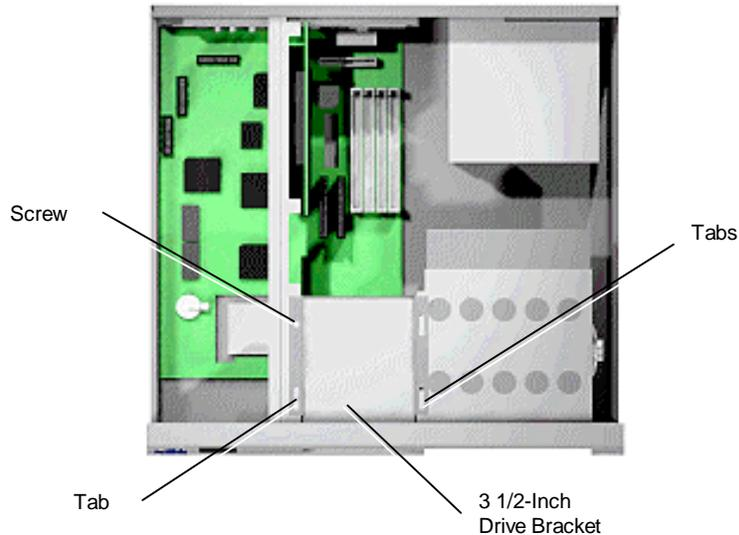

Figure 3-26 *Securing the 3 1/2-Inch Drive Bracket*
3. Use the previously removed bracket screw to secure the bracket in place (see Figure 3-26).